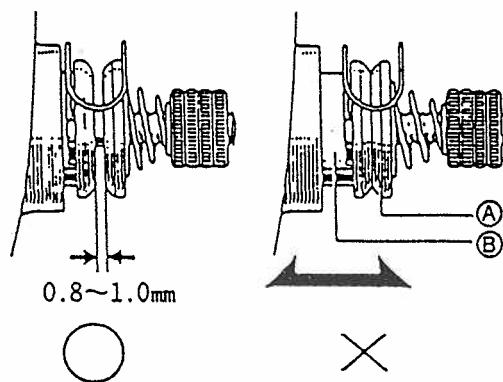

Fig. 10.31
- (1) If the thread release is not adjusted properly, the trimmed thread tail length will be reduced and stitches will be skipped or the needle thread may leave the needle when sewing commences.
- (2) If the tension discs do not close when the presser foot is lowered, the needle thread tension is reduced and the overall thread tension develops an imbalance.
- (3) When the thread release is adjusted properly, a clearance of 0.8 to 1.0 mm develops when the tension discs open, as shown in Fig. 10.31.